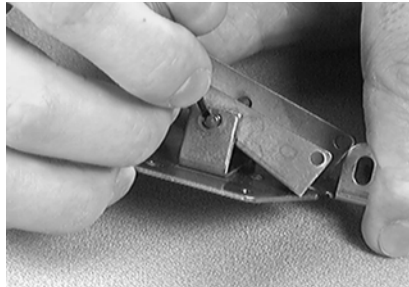

Figure 5-9
6. Use a small screwdriver to remove one E-clip **8** from the pivot shaft **7**. Remove the pivot shaft. Remove the lever **5** (Figure 5-9).